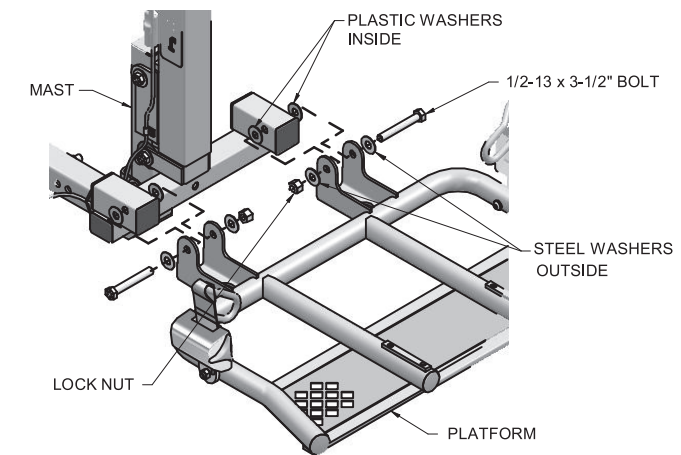

Fig. 5
Attach the Platform to the Mast using (2) 1/2-13 x 3-1/2" Bolts, (4) 1/2" Washers, (4) 1/2" nylon Washers and (2) 1/2-13 Nylock Nuts. These should be securely tightened and still allow the Platform to pivot. See Fig. 5.